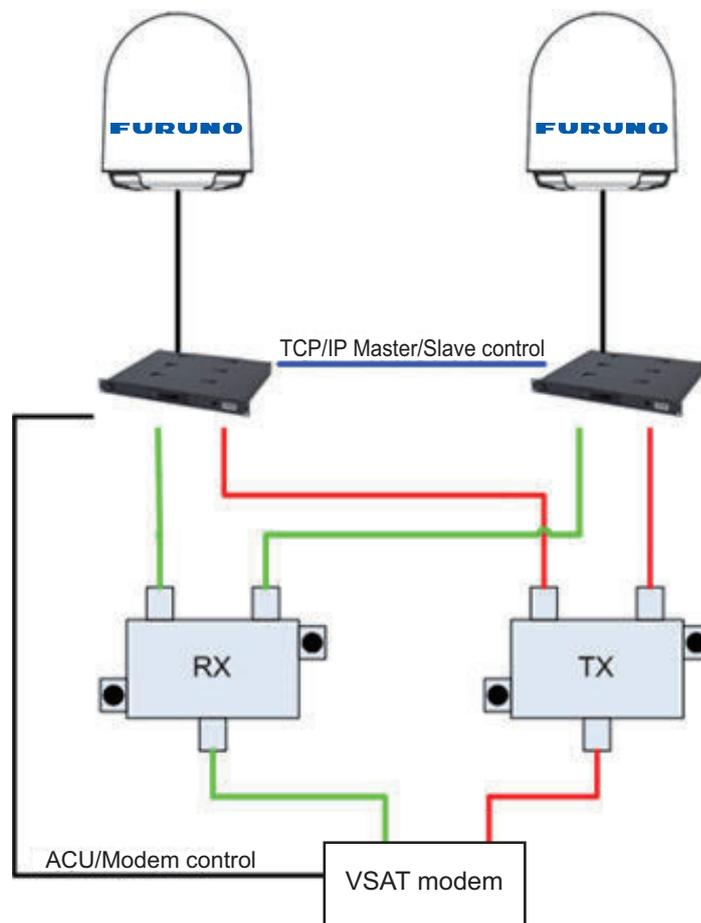

Figure 2-25: Dual mode antenna, overview
1. Install the master ADU, ACU, the RX combiner and the VSAT modem as shown in figure 2-25.